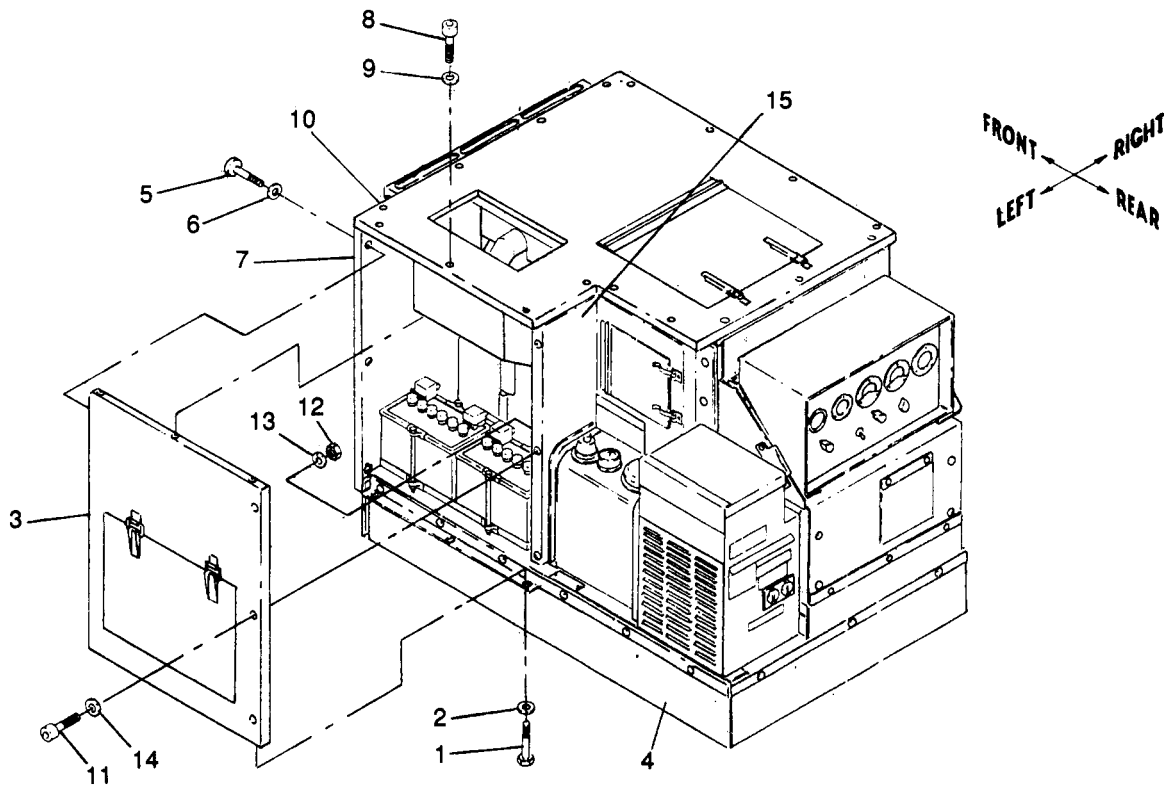

Figure 5-4. Left Panel Assembly, Removal and Installation
a. Removal. See figure 5-4. Remove left panel assembly from left support assembly, side closure assembly, and front and top panel assemblies as follows:
(1) Remove three screws (1) and washers (2) securing left panel assembly (3) to left support assembly (4).
(2) Remove three screws (5) and washers (6) securing left panel assembly (3) to front panel assembly (7).
(3) Remove three screws (8) and washers (9) securing left panel assembly (3) to top panel assembly (10).
(4) Remove three screws (11) and locknuts (12), and six washers (13 and 14) securing left panel assembly (3), to side closure assembly (15) and lift off left panel assembly (3).
b. Installation. See figure 5-4. Install left panel assembly to left support assembly, side closure assembly and front and top panel assemblies as follows:
(1) Position left panel assembly (3) on left support assembly (4) and install three screws (11) and locknuts (12), and six washers (13 and 14) securing left panel assembly (3) to side closure assembly (15) .
(2) Torque screws (11) to 16 ±2 ft-lbs dry.
(3) Install three screws (8) and washers (9) securing left side panel assembly (3) to top panel assembly (10).
(4) Torque screws (8) to 18 ±2 in.-lbs dry,
(5) Install three screws (5) and washers (6) securing left panel assembly (3) to front panel assembly (7).
(6) Torque screws (5) to 18 ±2 in.-lbs dry.
(7) Install three screws (1) and washers (2) securing left panel assembly (3) to left support assembly (4).
(8) Torque screws (1) to 18 ±2 in.-lbs dry.